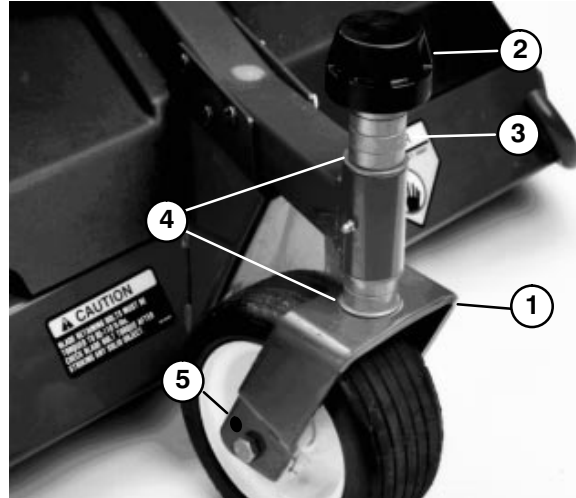

Figure 19
(Fig. 19–20)
- Drill out .438" dia. holes (Fig. 19 & 20) in each side of castor forks to .500" or .516" dia.